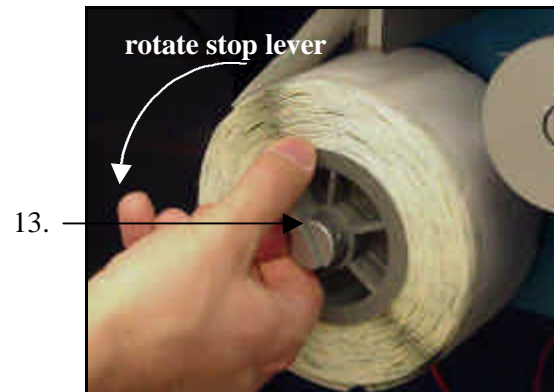

Figure 28: Rotating the Stop Lever to Down Position
13. Rotate the stop lever (counter-clockwise) on the supply roll shaft until the stop lever is in the **DOWN** position (**Figure 28**).